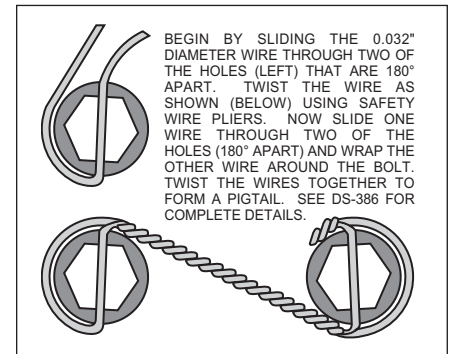

Figure 3. Safety Wire Diagram
- Pack the small outer bearing cone (13) with high temperature disc brake bearing grease and install into the front side of the hub (6). Lightly coat the spindle bearing surfaces with bearing grease. Slide the hub assembly (5, 6, 7, 8 and 13) onto the spindle. Secure using spindle washer (14), existing adjusting nut and nut locking device. Adjust wheel bearing pre-load per Original Equipment Manufacturer (OEM) specifications.
- Install the o-ring (15) and the dust cap (16) into the hub (6). Friction created by the o-ring (15) on the dust cap (16) keeps it from unscrewing. The O.D. of the existing spindle washer may be larger than the I.D. of the dust cap (16) which may allow the washer to contact the dust cap (16). Use the spindle washer (14) supplied with the kit instead of the stock washer.
- With the larger I.D. side of the rotor (9) facing away from the hat (11), bolt rotor (9) to hat (11) through the backside of the rotor using bolts (10). Torque bolts (10) to 180 **in-lb**. Safety wire bolts (10) using standard 0.032 inch diameter stainless steel safety wire as shown in Figure 3. Please refer to Wilwood's data sheet DS-386 (available at www.wilwood.org/ds386.pdf) for complete safety wire installation instructions.
- Slide the rotor/hat assembly (9, 10 and 11) over the wheel studs (5) in the hub (6) taking care to align the small countersunk holes in the hat (11) with the small threaded holes in the hub (6) Install three flat head socket head screws (12) through the small holes in the hat (11) and torque to 85 **in-lb**.